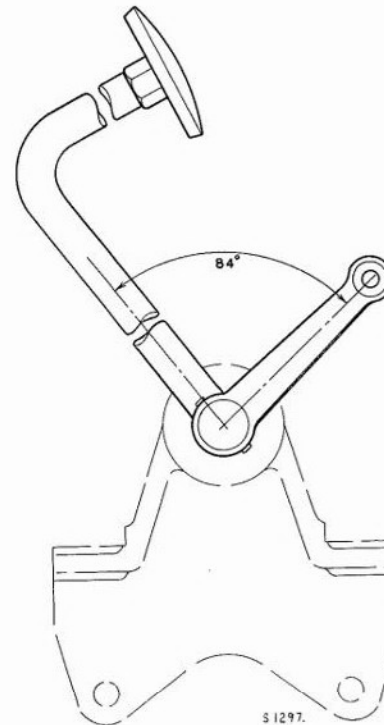

Fig. C.12. Accelerator pedal assembly, showing the angular disposition of the relay lever (R.H.D. Models)
1. When the accelerator pedal shaft is in position ensure that the distance piece is located over the inner end of the shaft, and that the lever assumes the correct angular position as noted during dismantling operations (see Fig. C.12). Drill the lever and shaft, securing the components using a Mills pin.